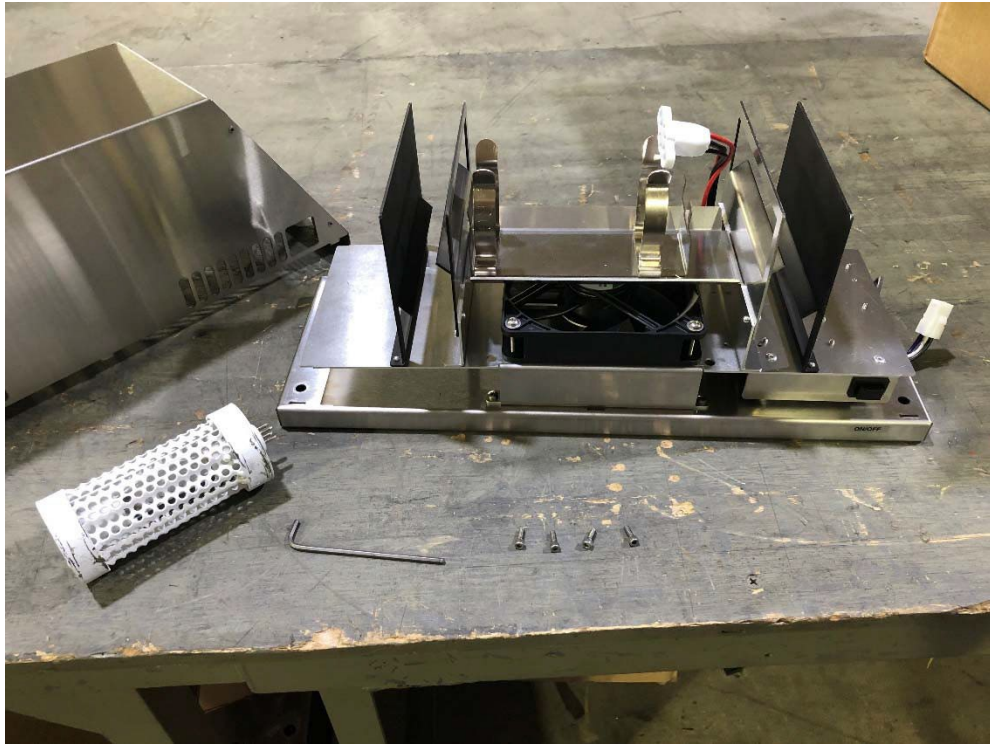

Figure 8 - BULB DISCONNECTED FROM PLUG
4. With the cell removed from the clamps, the plug can be pulled from the cell. See Figure 8 below.